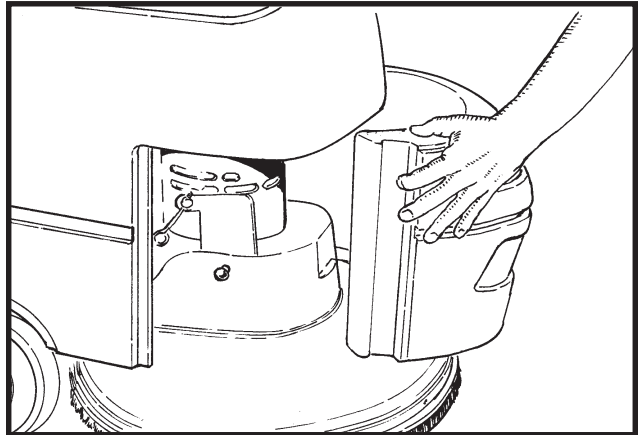

Figure 15a
4. Open the brush motor cover and remove the brush housing. See figures 15a and 15b.
4. Open the brush motor cover and remove brush housing. See figures 15a-15c.